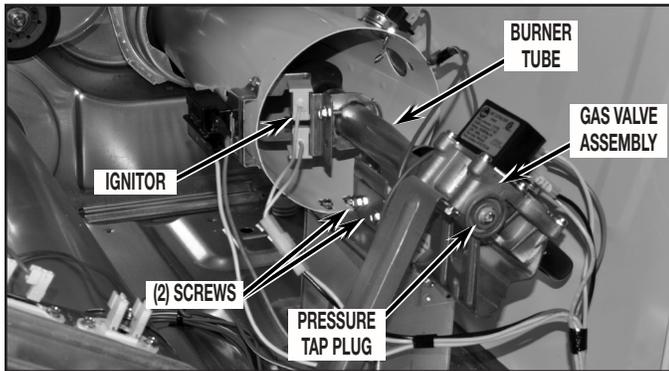

FIGURE 19A
23. Remove the two (2) screws securing the burner tube to the burner base. See *Figure 19A*.
26. Slide the burner tube back in place and using the screws removed in step 22 reattach burner tube to the burner assembly. Securely tighten the two (2) mounting screws. See *Figure 19A* or *19B*.